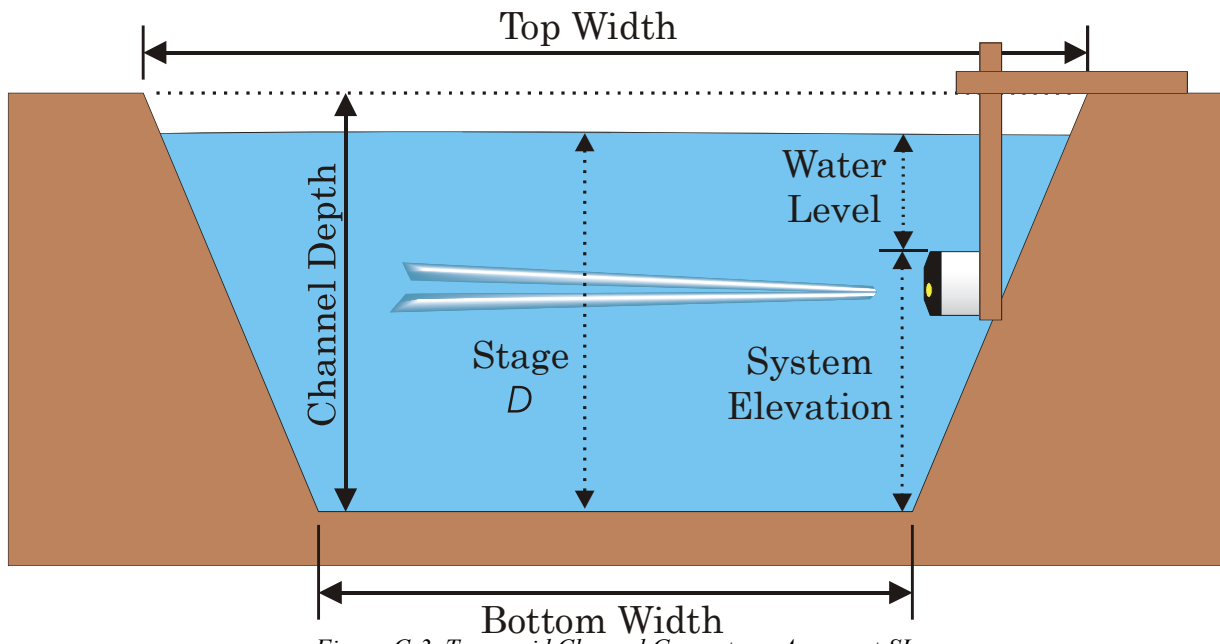
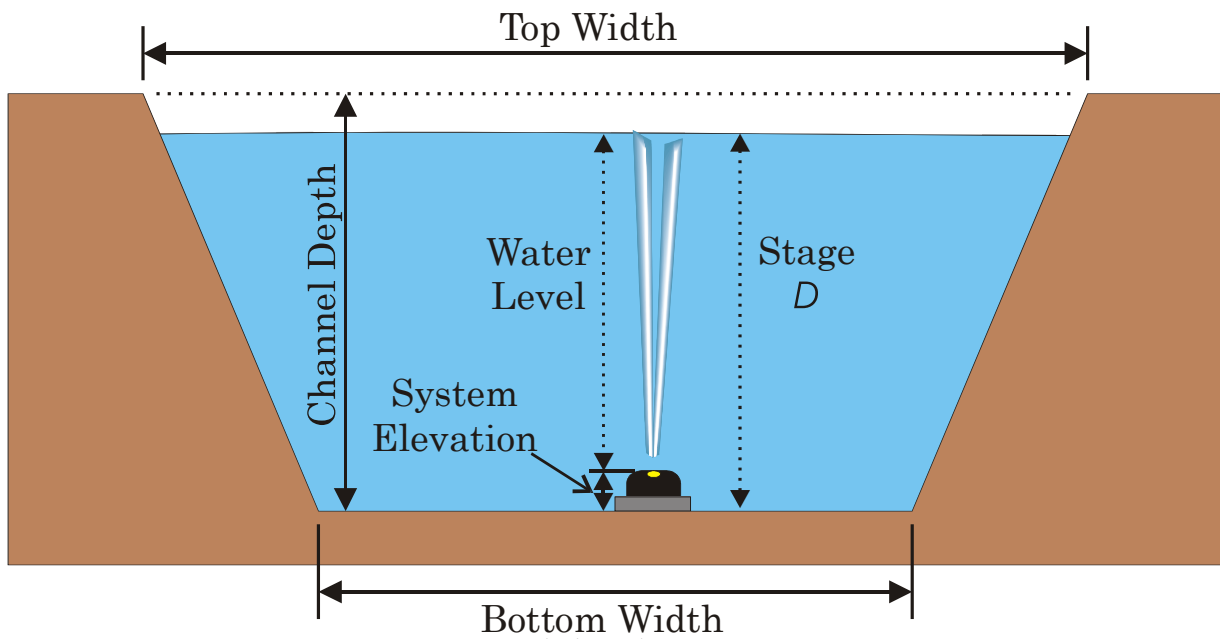

Figure C-3. Trapezoid Channel Geometry – Argonaut-SL
Figure C-4. Trapezoid Channel Geometry – Argonaut-SW
>ChannelType Trapezoid                      See Figure C-3 (SL) or Figure C-4 (SW).
- **Trapezoid**: The height of the top of the system (vertical beam transducer face) relative to the bottom of the channel. Available for SL (**Figure C-3**) and SW (**Figure C-4**) systems.